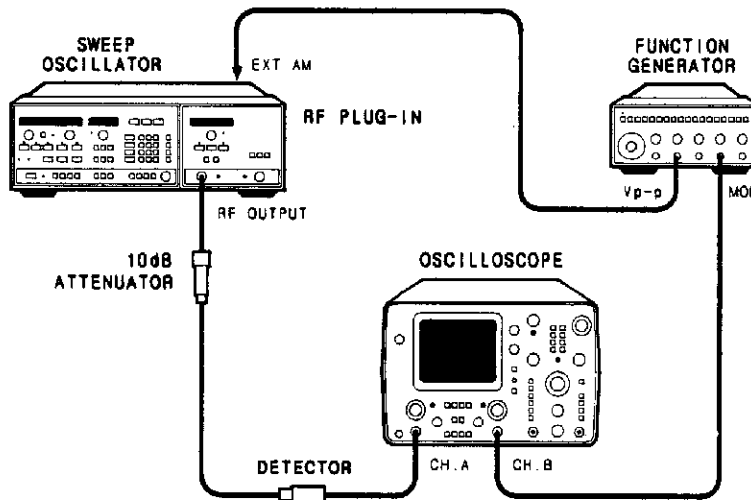

Figure 5-41. ALC Gain Adjustment Test Setup
4. Connect equipment as shown in Figure 5-41.